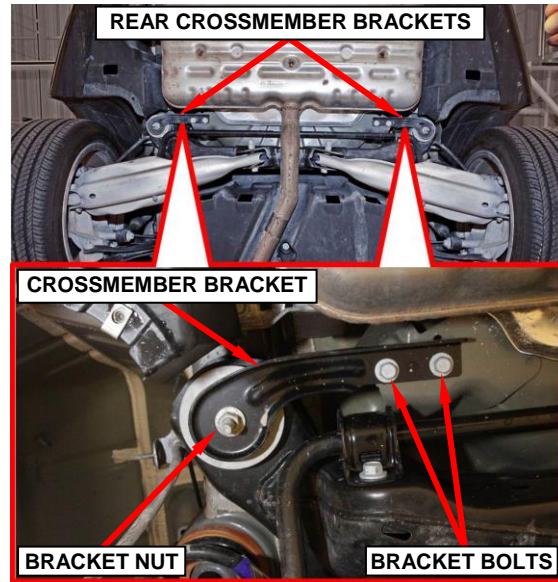

Figure 5 – Crossmember Brackets
7. Remove and save the rear crossmember brackets and fasteners from the left and right side of the vehicle (Figure 5).
9. Install the rear crossmember brackets and fasteners to the left and right side of the vehicle. Tighten the bolts to 21 ft. lbs. (28 N·m) and tighten the nuts to 48 ft. lbs. (65 N·m) (Figure 5).